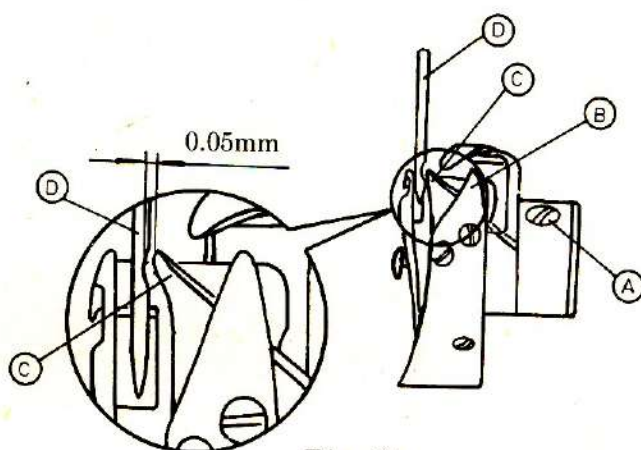

Fig.24
It is also necessary to pay attention to the clearance between the hook point and the side of the needle when you adjust the timing of the needle to the hook. The clearance between the bottom of the needle recess (D) and the hook point (C) is about 0.05 mm (fig 24).